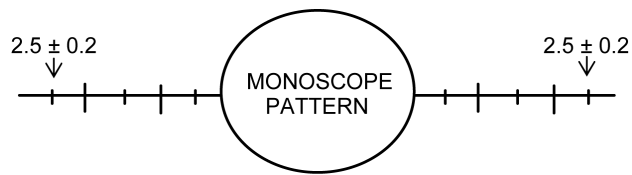

Fig. 1
- b. Adjust H-AMP so that both edges are within 2.5 ± 0.2 . Refer to Fig. 1.